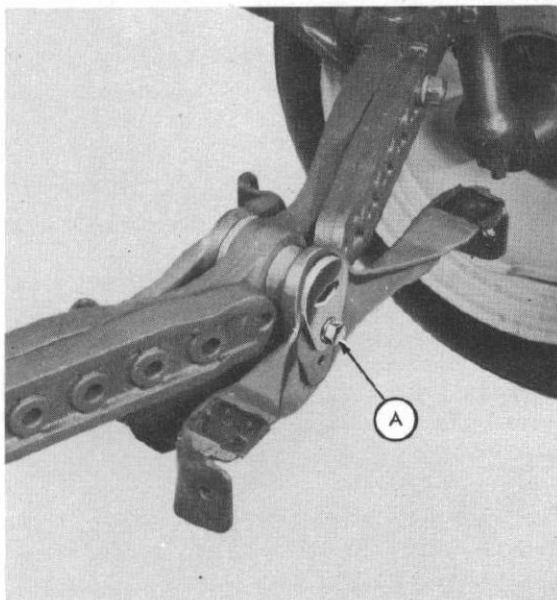

Fig. 1
- Step 2—Remove the cap screw (A-Figure 1) that holds the axle pin in position.